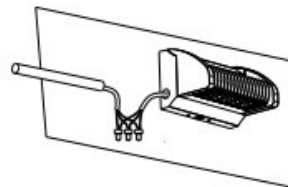

Figure 2-4
4.Fix the luminaire on the bracket; make wiring connection from side and go through isolation treatment.(Figure 2-4)